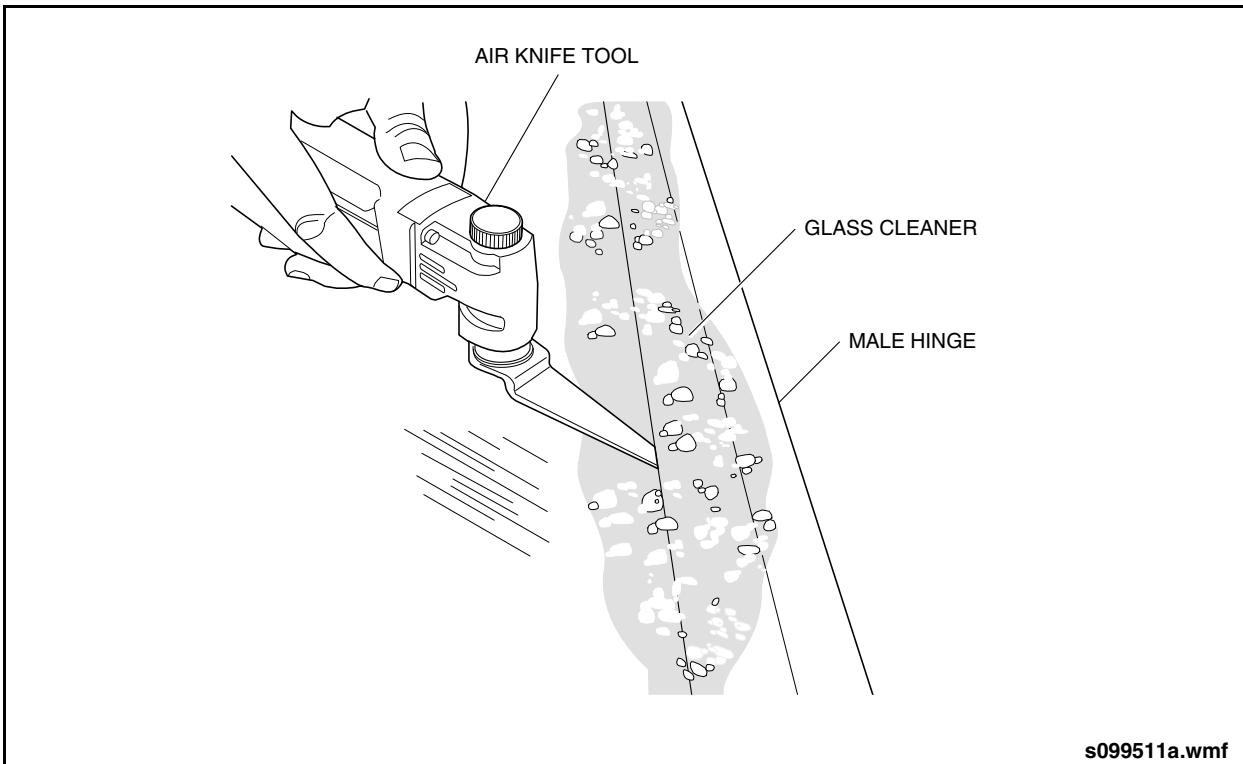

Fig. 14-16: Cutting of Bond Between Male Hinge & Glass
2. Using the air knife cut the bond between the male hinge and the glass. See "Fig. 14-16: Cutting of Bond Between Male Hinge & Glass" on page 21. Slightly lift up on the male hinge to prevent the blade from getting stuck.